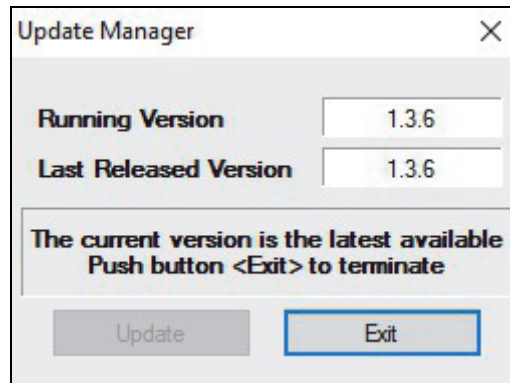

Figure 7: Update Manager window.
- In the Update Manager window (see Figure 7) the user can automatically check the “Running Version” against the “Last released Version” from G.M. International database. The Configuration Software can be updated by pressing the “Update” button or left unchanged by pressing the “Exit” button.